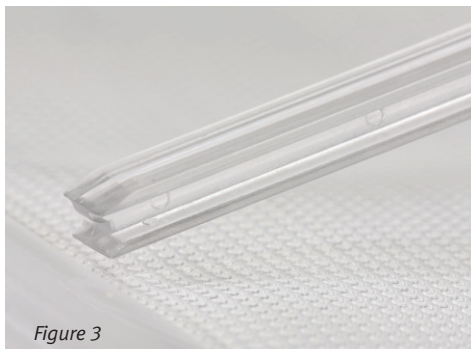

Figure 3
- Locate the top of the bar. The top side has a slanted edge. The bottom has a lip which fits into the edge of the tray (Figure 3).